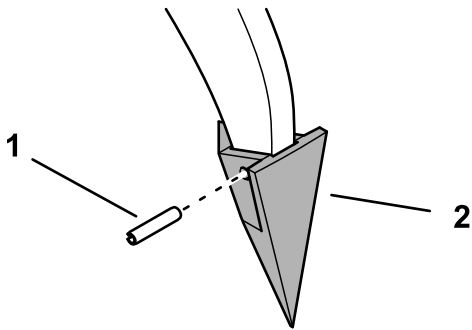

Figure 8
1. Remove the roll pin securing the tip to the end of the tooth and remove the tip (Figure 8).
2. Install a new tip onto the end of the tooth and secure it with the roll pin (Figure 8).